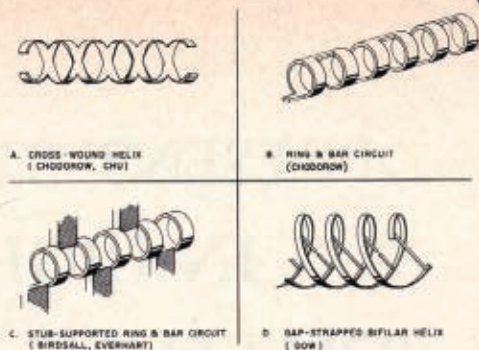
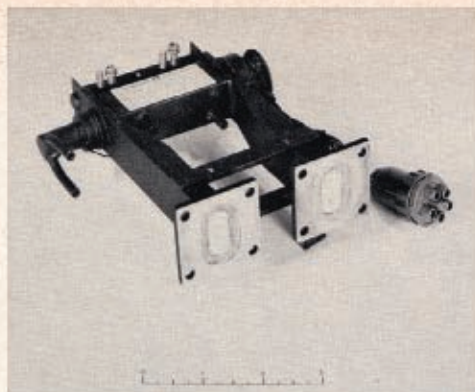

Figure 1—Some helix modifications for high power applications.
Figure 2—Z-5161 100 watt X-Band 4-Helix traveling-wave tube.
3. The simple helix is still the most frequently employed slow-wave circuit in TW tubes. It has been used in low noise applications, in medium power amplifiers (with a CW capability as high as 10 watts at X-band), and in pulsed applications (as high as several kilowatts at S-band). In addition, it has found application in electronically tunable oscillators and amplifiers. Considerable work has been expended to modify the simple helix into circuits suitable for higher voltage interaction and higher average power capability. Some of these are shown in Figure 1. For example, a four helix circuit developed by Putz⁵ has made it possible to develop 100 watts of CW power at X-band over an almost 2:1 frequency range (see Figure 2).